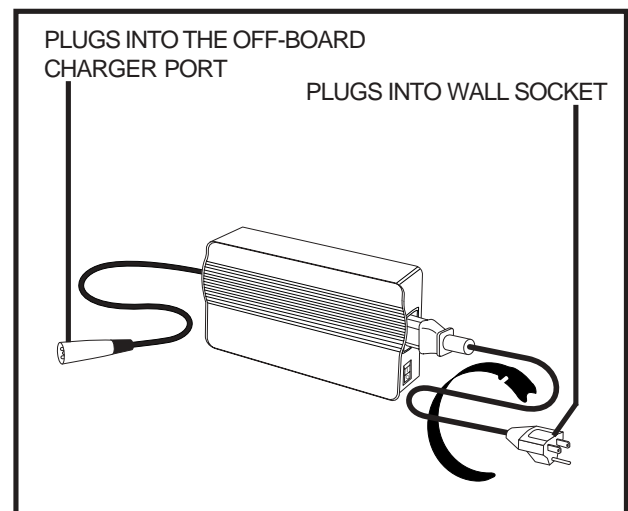

Figure 12A. Off-Board Charger
4. Plug the 3-pin charger power lead into the off-board charger port. See figure 12A.